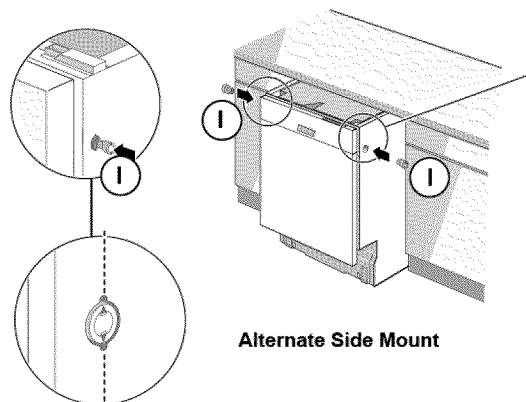

Figure 18
**Alternate Side Mount** for opening 17.7-18 in (450-458 mm). Insert a side mount force distributor (Part I) in each side as shown in **Figure 18**.